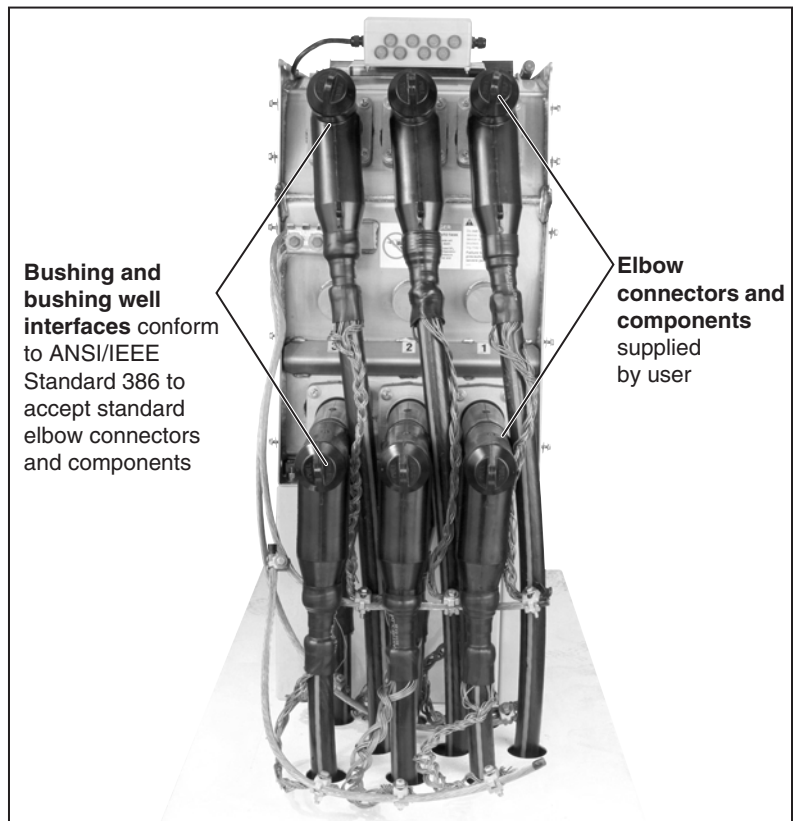

Figure 10. Elbow connectors.
2. Assemble the elbow connectors to the cables following the elbow connector manufacturer's instructions. See Figure 10.